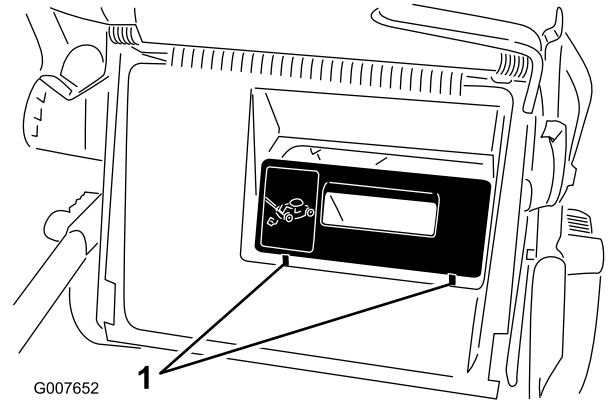
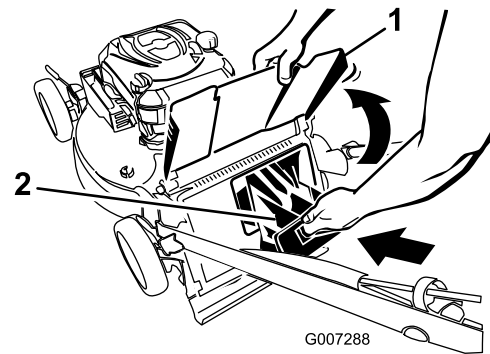

Figure 19
Figure 20
**Important:** Ensure that the rear discharge plug is securely in place. Lift up the discharge deflector and look for 2 tabs in front of the plug (Figure 19). If you do not see them, firmly push the plug in until it snaps into place (Figure 20).